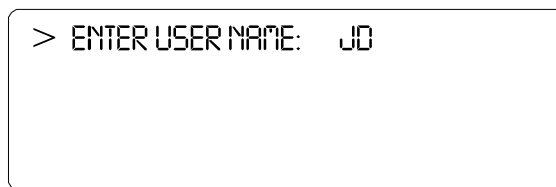

FIG. 339: REMOVING USER NAME
- Step 1. From the Standby display press on the User/. button. The Enter User Name Display appears. (See Fig. 339)